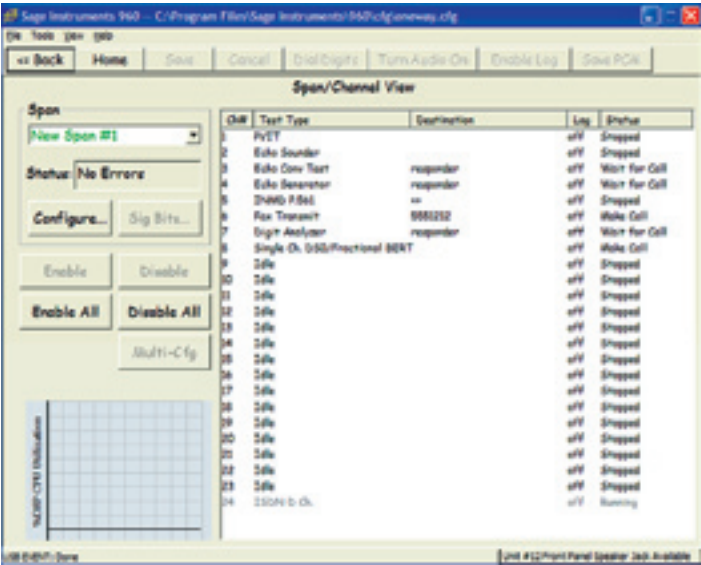

Figure 123
6. In the span window click on either PCM 1 or PCM 2. Notice that the ISDN D Channel test now shows an “Running” state on the default channel 24 or the channel you designated (see figure 123).